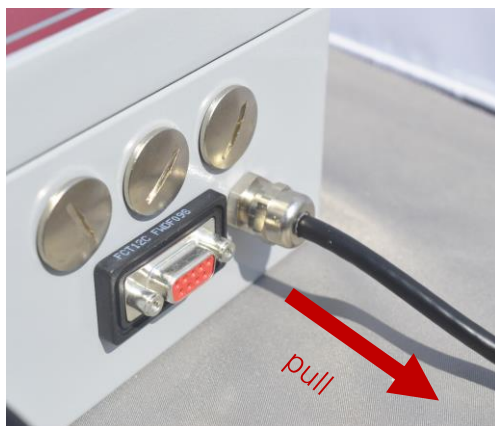

Figure 12: bottom view, antenna cable fed through the cable gland
18. Verify if the cable is properly fastened, pull the cable carefully and verify if the gland and tie-wrap are holding the cable. (Figure 12).